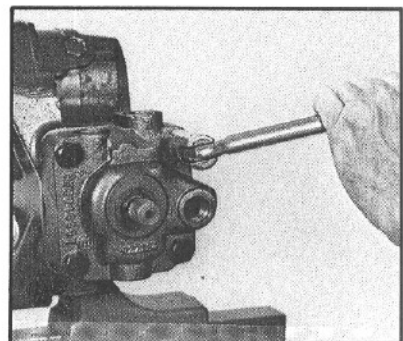
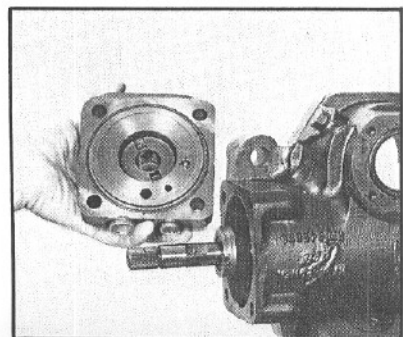

Figure 53
Figure 54
21. Remove the four valve housing bolts (1) with a 13/16 inch socket (FIG. 53). Prepare for some fluid to drain, and remove the valve housing (9) (FIG. 54).